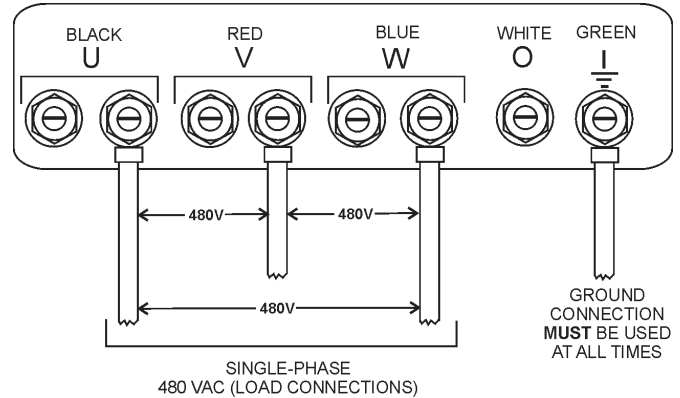

Figure 28. UVW Terminal Lugs 1Ø-480V Connections
2. Connect the load wires to the UVW terminals as shown in Figure 28.